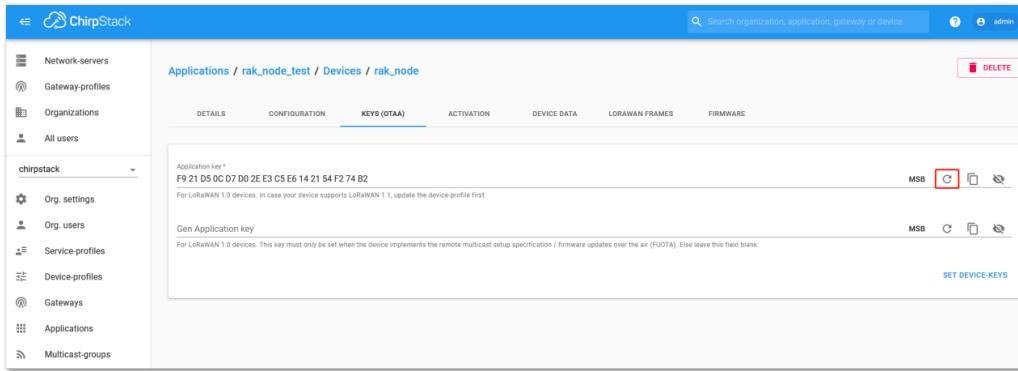

Figure 206: Chirpstack OTAA set application keys
- A previously created Application Key can be entered here, or a new one can be generated automatically by clicking the icon highlighted in red in **Figure 206**.